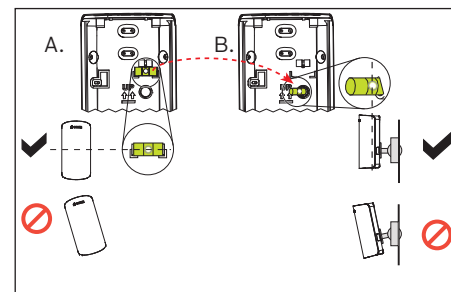

Figure 4.3: Level detector
2. Use the bubble level to ensure the base is level from side to side. Refer to *Figure 4.3 - A*.
3. Remove the bubble level and place it into the bubble level holder to verify vertical alignment. This is applicable for swivel mount brackets only. Refer to *Figure 4.3 - B*.